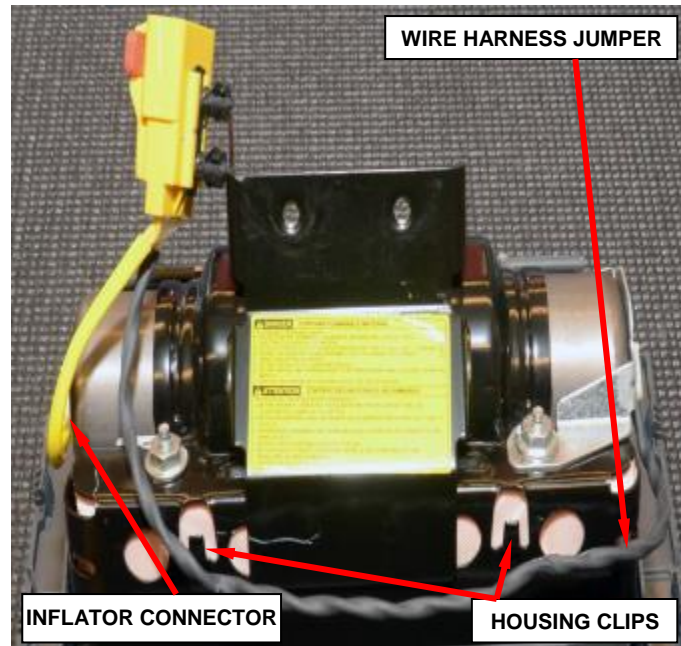

Figure 36 – Wire Harness Jumper
- b. Disengage the wire harness jumper from the housing clips in two places (Figure 36).
- c. Disconnect the single yellow wire inflator connector from the end of the inflator using pliers (Figure 36).